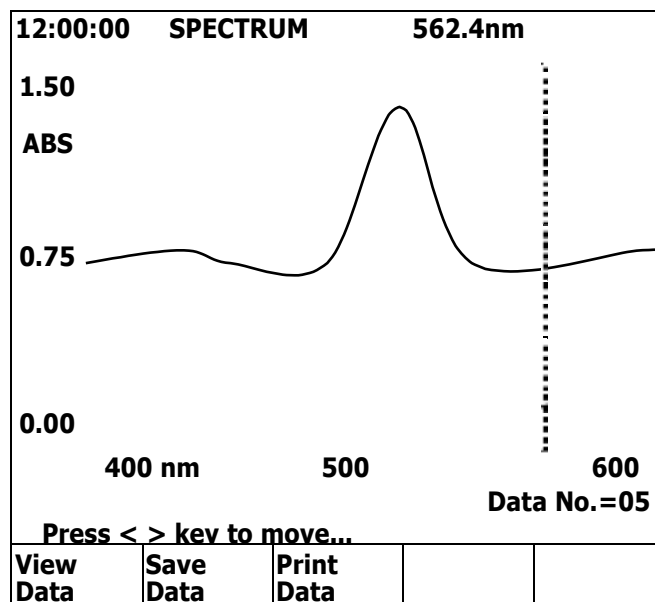

Figure 6.7 Saving data in Show Track mode
Step 8. Under Show Track mode, data of the traced point can be saved by pressing F2 Save Data. And a number will be assigned automatically to that traced point. The number will be displayed at the lower right corner in the screen (Figure 6.7). Total 60 sets of data can be saved. In this mode, pressing F3 Print Data will print out this screen with the dotted line. Pressing F1 View Data will show the Data File List screen that displays all saved data in the Show Track mode.